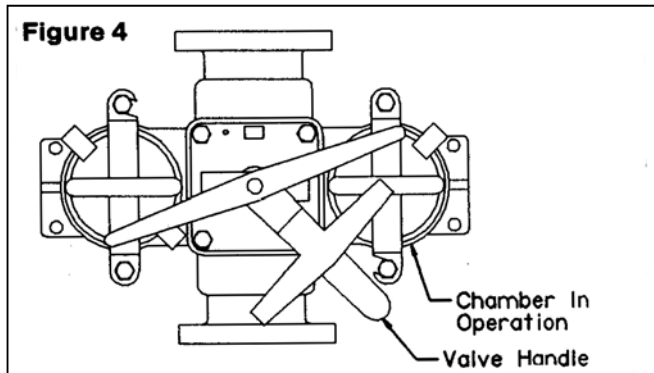

**Figure 3**
**CAUTION:** A vent is required when fluids other than water and with temperatures in excess of 120°F are to be handled by the strainer. The vent must be piped to a safe discharge point to protect the operator (see Figure 3). Wear protective clothing which includes gloves, vests, and goggles when handling dangerous fluids.
Open both chamber vents, if strainer is so equipped (see figure 3), to expel air from the strainer.
Tightly close pipeline valve on inlet and outlet connections of the strainer. Open vents, (see figure 3), to relieve liquid pressure in the strainer.
Hand tighten yoke studs and tighten the center T- bolt. Make sure vent is open, if strainer is so equipped, (see Fig 3); close drain valve and refill basket chamber with fluid as follows: